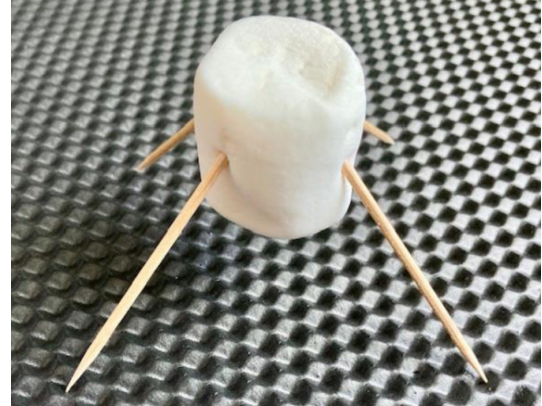

Figure 1. Insert the four toothpicks into the marshmallow to represent Ingenuity's legs
2. Insert the four toothpicks into the marshmallow so they come out at angles as shown in Figure 1. The toothpicks represent the four hollow carbon-fiber legs on Ingenuity. Ingenuity's legs are designed to be lightweight while still supporting the helicopter when it's on the Martian surface. To take up less space, Ingenuity's legs are folded while it's being carried to Mars.